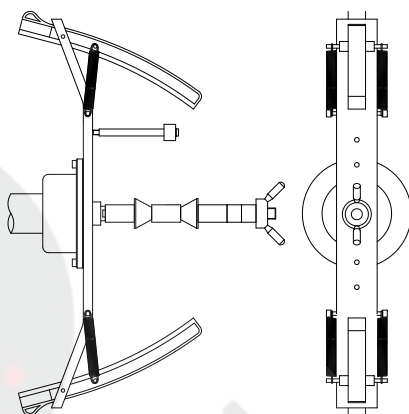

Fig.4.2.2
11. Apply the calibration weight on the outside of the adaptor with the weight part away from the adaptor. Fig.4.2.2